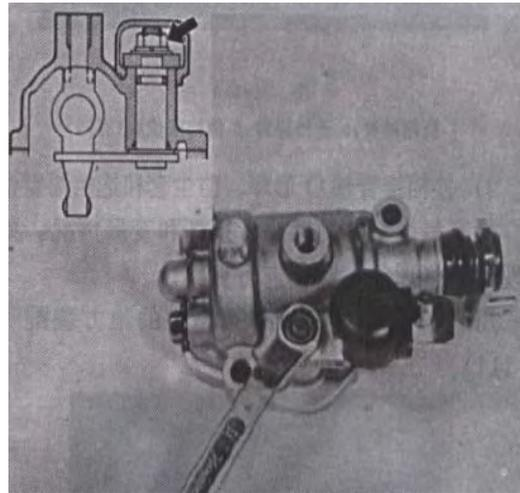
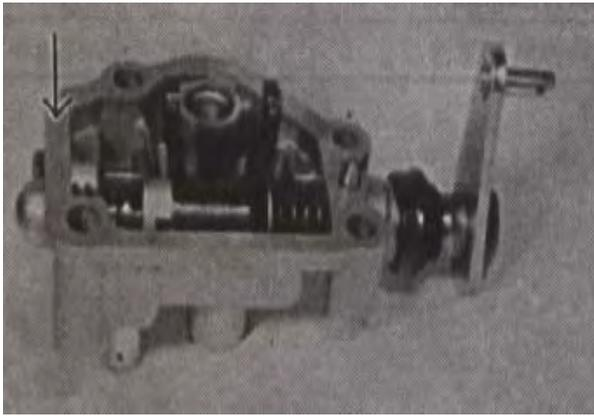

Fig 10-120
Fig 10-121
- (5) Install ball, spring and screw and tighten screw to specified torque. (FIG.10-120)
- (6) Check select shaft lever and shift shaft lever for smooth and correct movement into each range position.
- (7) When installing lever case to transmission extension case, clean joint faces, and then apply sealant(SILICON KETONE HZ1213) to joint faces. (FIG.10-121)。
- (8) Tighten gear shift lever case bolt to specified torque. (TABLE 10-13)。